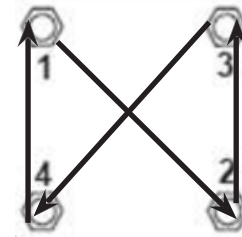

Figure 7- 4-Bolt Tightening Pattern
To torque bolts, tighten in the following increments using the tightening pattern in Figure 7: 50%, 75%, then Full Torque.
5. After the blade pitch angles have been set on both blades within **0.2°** of each other, torque mounting bolts following the pattern in Figure 7 and tighten each bolt 1/8 to 1/4 turn at a time. Check blade pitch at each torque interval. Then finish torquing clamping bolts.